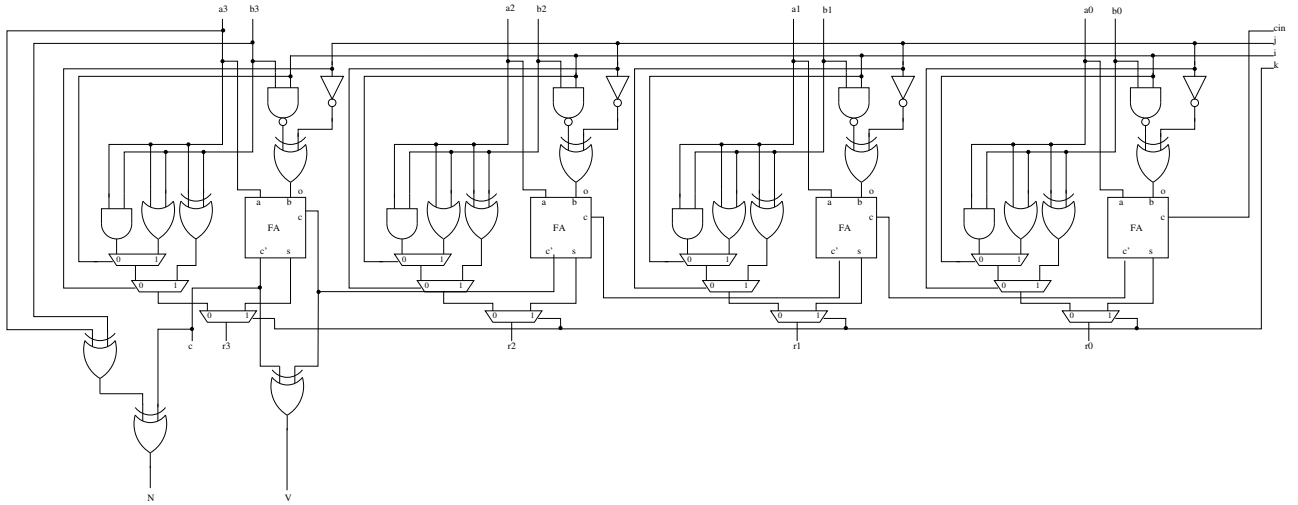

Figure 4: 4-bit Arithmetic Logic Unit
An Arithmetic Logic Unit (ALU) is built from an adder and logic gates (AND, OR, etc.) to compute the result of logic and arithmetic functions. Figure 4 shows an example of a 4-bit ALU. The control bits of the ALU are  $ALU.op = kijc_{in}$ . This 4-bit vector encodes the operations that the ALU can perform. These operations are summarised in Table 1.
**Exercise 3.** Using your adder of the previous exercise, write the description of an 8-bit extension of the 4-bit ALU shown in Figure 4. The ALU should compute the following flags: C (carry), Z (zero), V (2's complement overflow), and N (negative). The main idea is to replace the cascade of full-adders in Figure 4 with your ripple carry adder. The equations to compute the different flags are as follows: